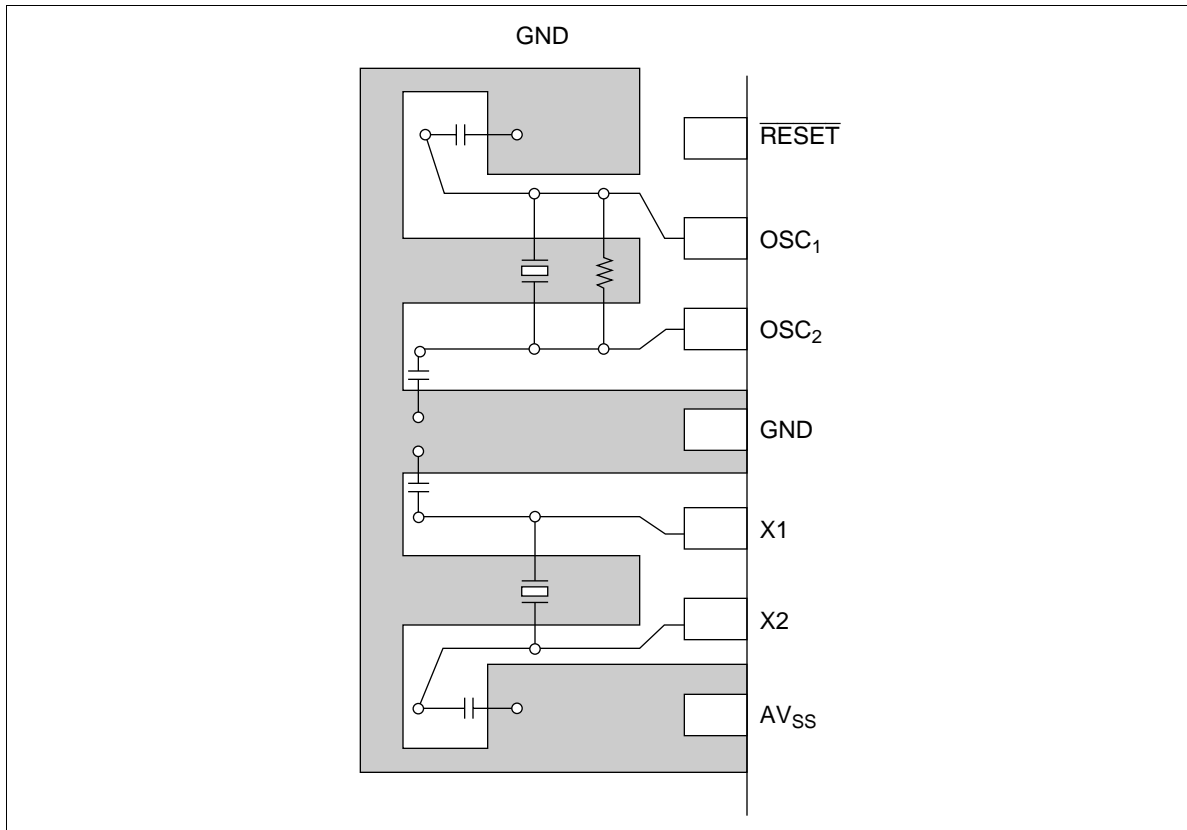

Figure 25 Typical Layout of Crystal and Ceramic Oscillators
2. Wiring among OSC₁, OSC₂, X1, X2 and elements should be as short as possible, and must not cross other wiring (see figure 25).